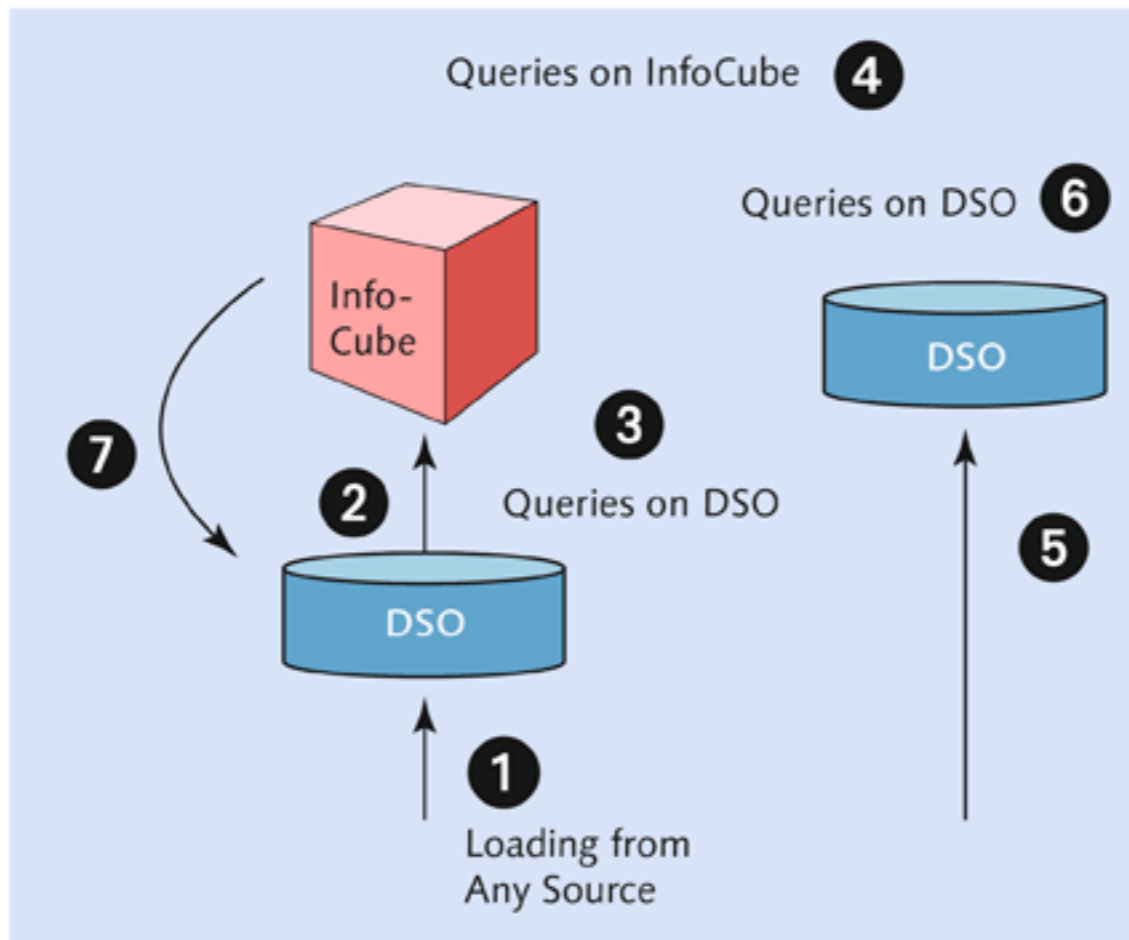

Figure 4.2 Position of DSO in SAP NetWeaver BW
Data can be loaded into DSOs from any source system, as shown in ❶ and ❺ of Figure 4.2. The data stored in a DSO is normally very detailed and is usually further sent to InfoCubes where it's summarized, as shown in ❷ of Figure 4.2. A DSO that is supplying data to an InfoCube can also be an InfoProvider; that is, queries can be created on this DSO (❸). That being said, it isn't *mandatory* to extract data from DSOs to InfoCubes; if you don't, the DSO is the end of the data flow, and queries can be created based on the DSO directly (❹). And you also create queries based on an InfoCube that stores data at a summarized level (❺). Finally, SAP NetWeaver BW offers a function called *report-to-report interface* (RRI), which you can use to jump from an InfoCube query to a DSO query (❻) to view detailed level data.